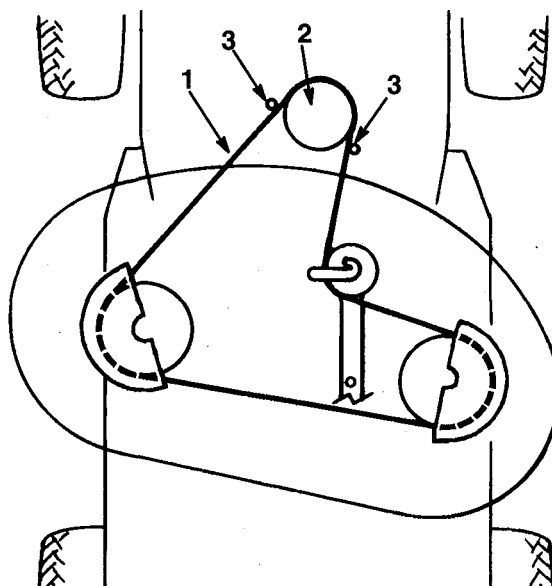

Figure 43
10. Remove the mower belt from the lower engine pulley (Fig. 43). If you are careful, you can flex the belt guide(s) just far enough away from the pulley to remove the belt. If it is too difficult to remove the belt, loosen the bolts and nuts securing the belt guides.
4. Install mower belt onto the lower engine pulley (Fig. 43). If you are careful, you can flex the belt guide(s) just far enough away from the pulley to install the belt. If it is too difficult to install the belt, loosen the bolts and nuts securing the belt guides.